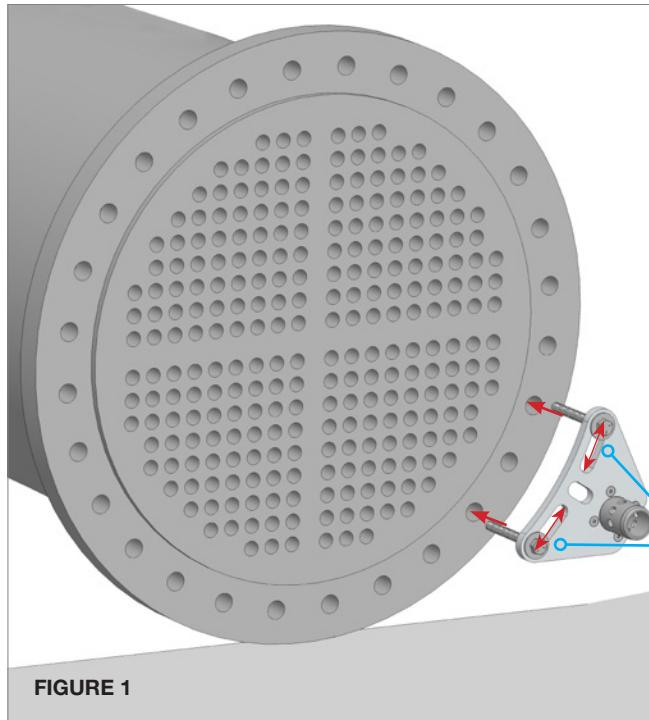

FIGURE 1
1. Install the Mounting Bracket onto the tube face. The best location for ease of set-up is in the lower right hand quadrant of the exchanger as shown in **(Figure 1)**. However, the ProPositioner can be mounted in any of the bolt hole positions around the flange. The bracket has three mounting points. The two outside points are adjustable.
2. Insert a 5/8" x 6" Bolt with Flat Washer through each Adjustable Slot on the Mounting Bracket and holes on the exchanger Flange. Install Flat Washers and Hex Nuts on the end of each bolt. **(Figures 1 & 2)**
-  TECH TIP: (2) 5/8" x 6" bolts are provided for convenience, but any bolts smaller than 1" or 25mm in diameter can be used.